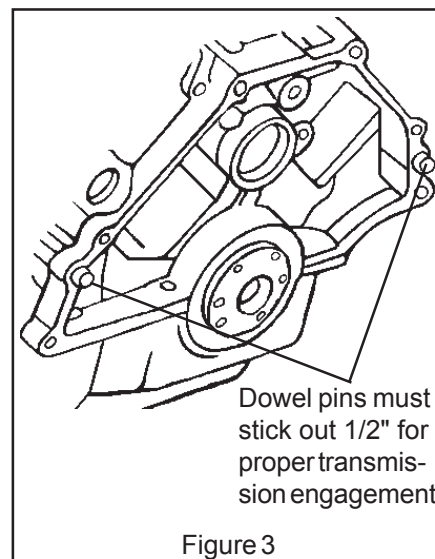

Figure 3
STEP 12. Inspect your engine block and engine plate. Make sure there are no burrs that will prevent the transmission from bolting down flat against the engine. File off any burrs that may be present. Dowel pins should stick out of the engine block a **minimum** of 1/2" for proper alignment. (See Fig. 3) Insufficient dowel pin engagement can cause front seal and/or bushing failure due to improper engine/transmission alignment. **Bellhousing bolts alone will not align the transmission properly.**